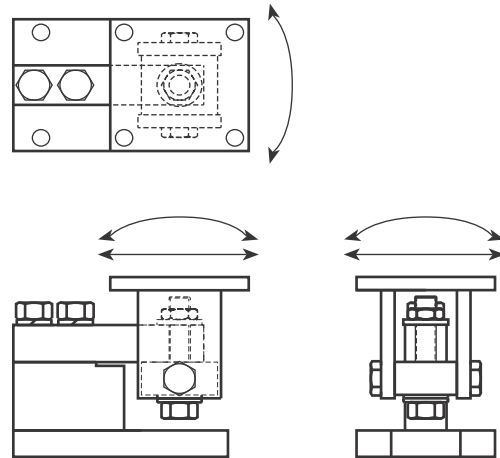

Figure 14-9. SURVIVOR 1855HE
Figure 14-9 illustrates the 1855HE module with arrows indicating allowable movement.
3. A chair arrangement is attached to the trunnion block through pivot screws, and the load is applied to the top plate of this chair. This arrangement allows the chair to move in the directions indicated in Figure 14-9.